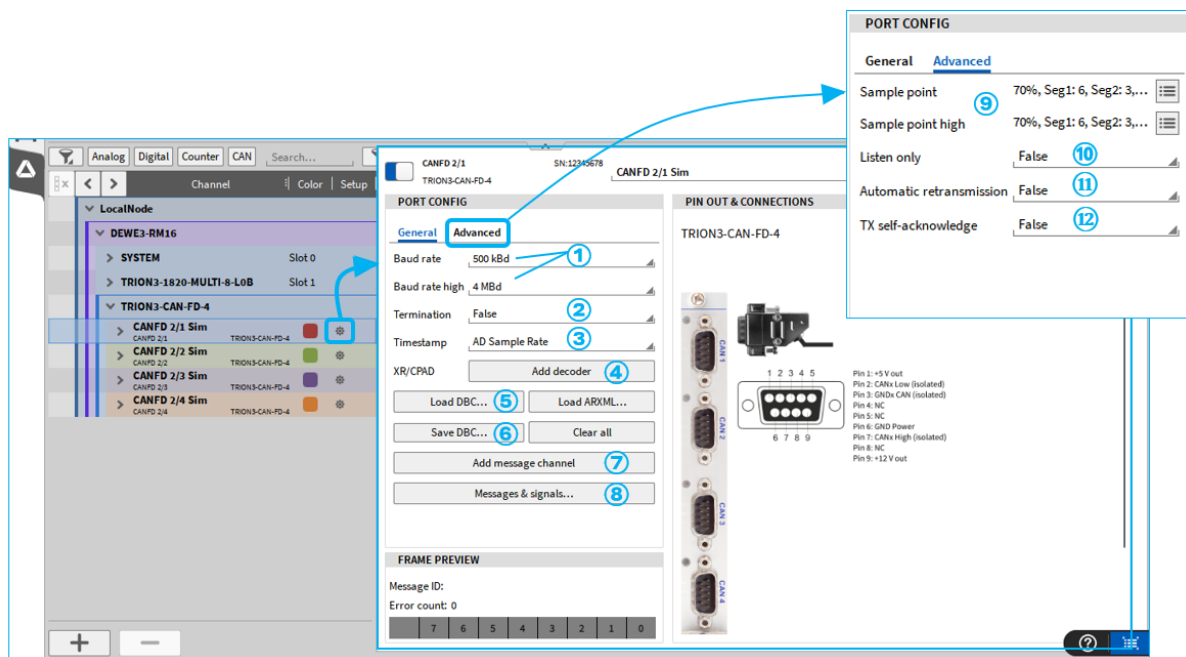

Fig. 4.45: CAN-FD channels with the TRION3-CAN-FD module
Click on the Gear button to open the Channel settings (marked blue in Fig. 4.45). The Baud rate and additional settings can be changed here and the dbc-file can be loaded.
To switch between protocols, create a message (see ⑦ in Fig. 4.45) and change the protocol between CAN, J1939 and CAN-FD.